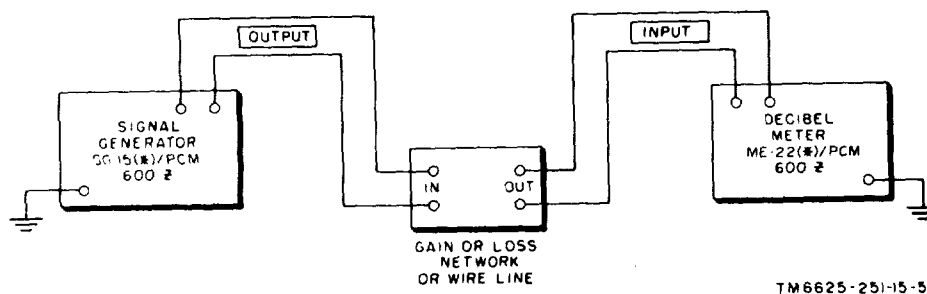

Figure 3-3. Point to point gain or loss measurements, connection diagram.
a. Connect the OUTPUT (jack or terminals) of the signal generator to the input of the circuit to be measured (fig. 3-3).